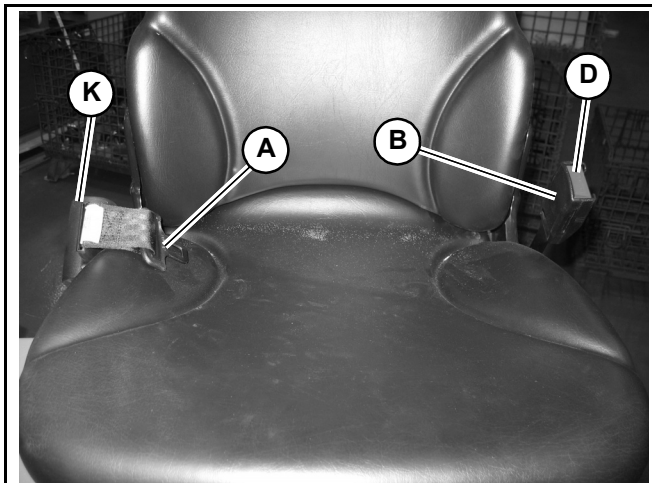

Fig. 22 – Seat Belt
Fasten the seat belt around your hips and waist and insert tongue (A, Fig 22) into buckle (B) until it clicks securely in place. Slack in the seat belt should automatically retract into seat belt spool (K).